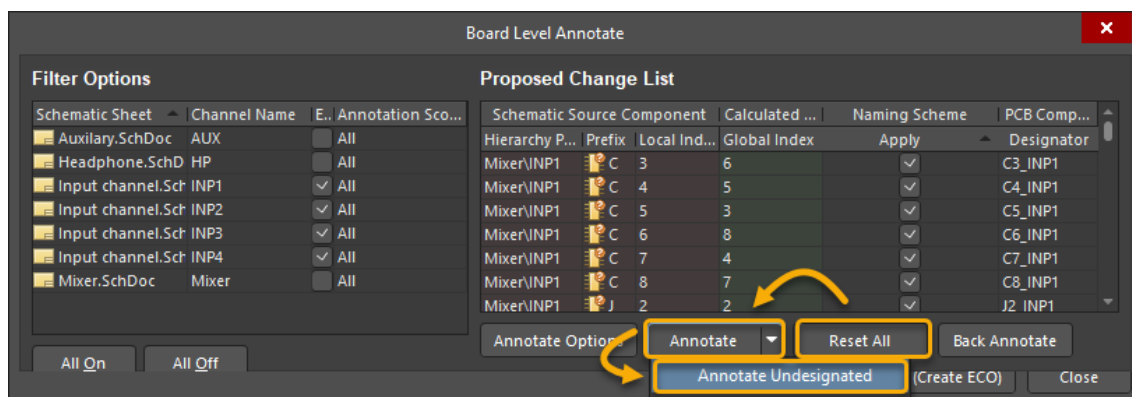

Figure 4. Undesignated Component
12. Select **Reset All**. Undesignated components have a small red question mark in the prefix column, Figure 4.